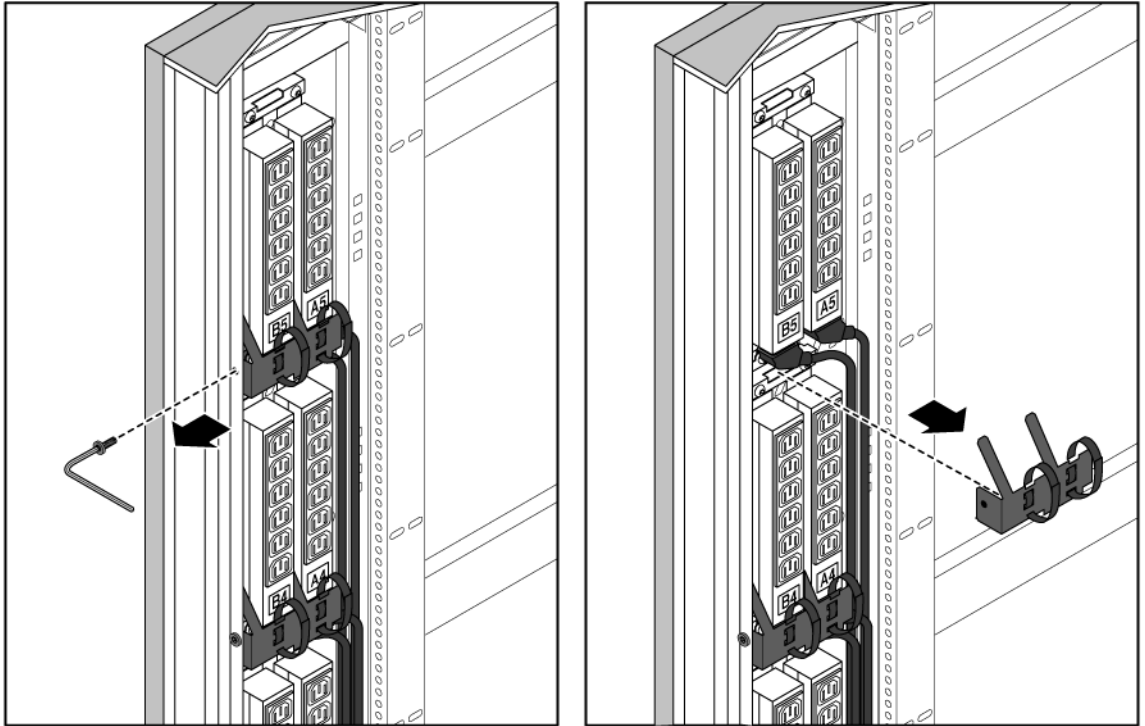

FIGURE 2-16 Removing the Power Cable Covers
2. Using a 3 mm hex wrench, remove the power cable covers (FIGURE 2-16).